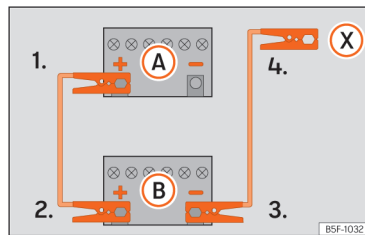

Fig. 210 Diagram of connections for vehicles without Start Stop system
4. *Vehicles without a Start-Stop system:* connect one end of the black jump lead to the negative terminal **-** of the vehicle providing the current **B** »» Fig. 210.